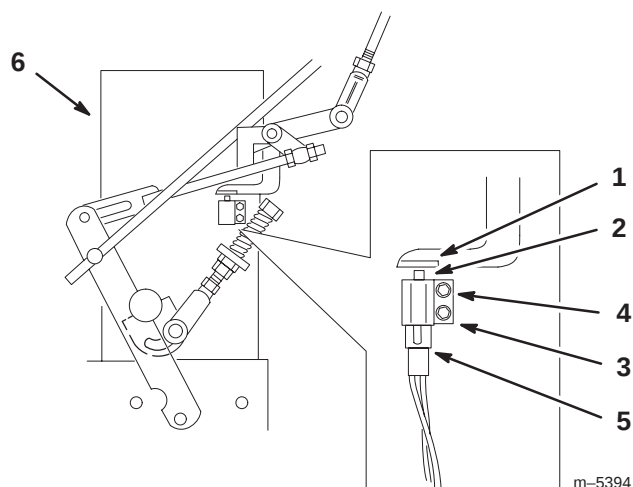

Figure 11
3. Remove the existing neutral switch and then install a grey neutral switch to the left side of frame (Fig. 11).
5. Check to make sure the neutral switch is depressed and there is a 5/16 inch (8 mm) space between the actuating tab and the switch (Fig. 11).
6. If needed, adjust the switch location to create the 5/16 in. (8 mm) space (Fig. 11).